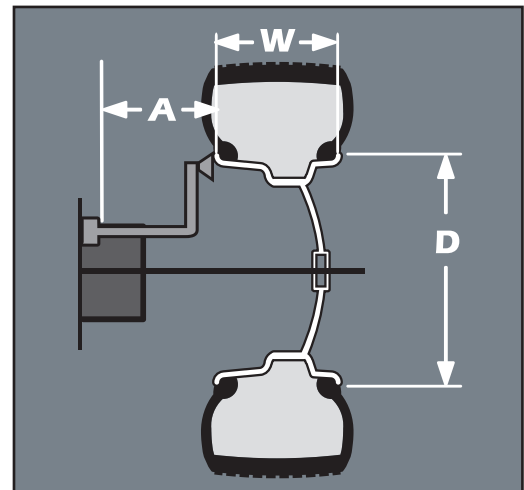

Figure 3 - A, W and D Tire Dimensions
**Note:** Throughout this manual tire dimensions are referred to as A, W, and D, see figure 3.